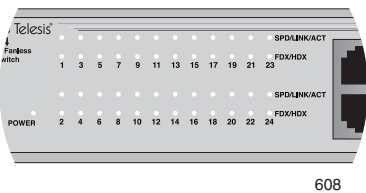

Figure 3. Port LEDs
**LEDs** The system and port LEDs on the front panel of the AT-GS900/16 and AT-GS900/24 switches display the switch and its port status information. See Figure 3. Each port has two LEDs.